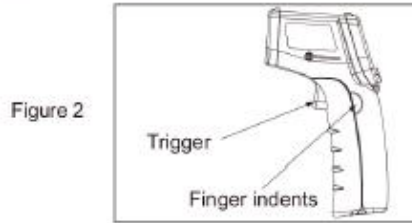

Figure 2
1. Operating the unit : Figure 2